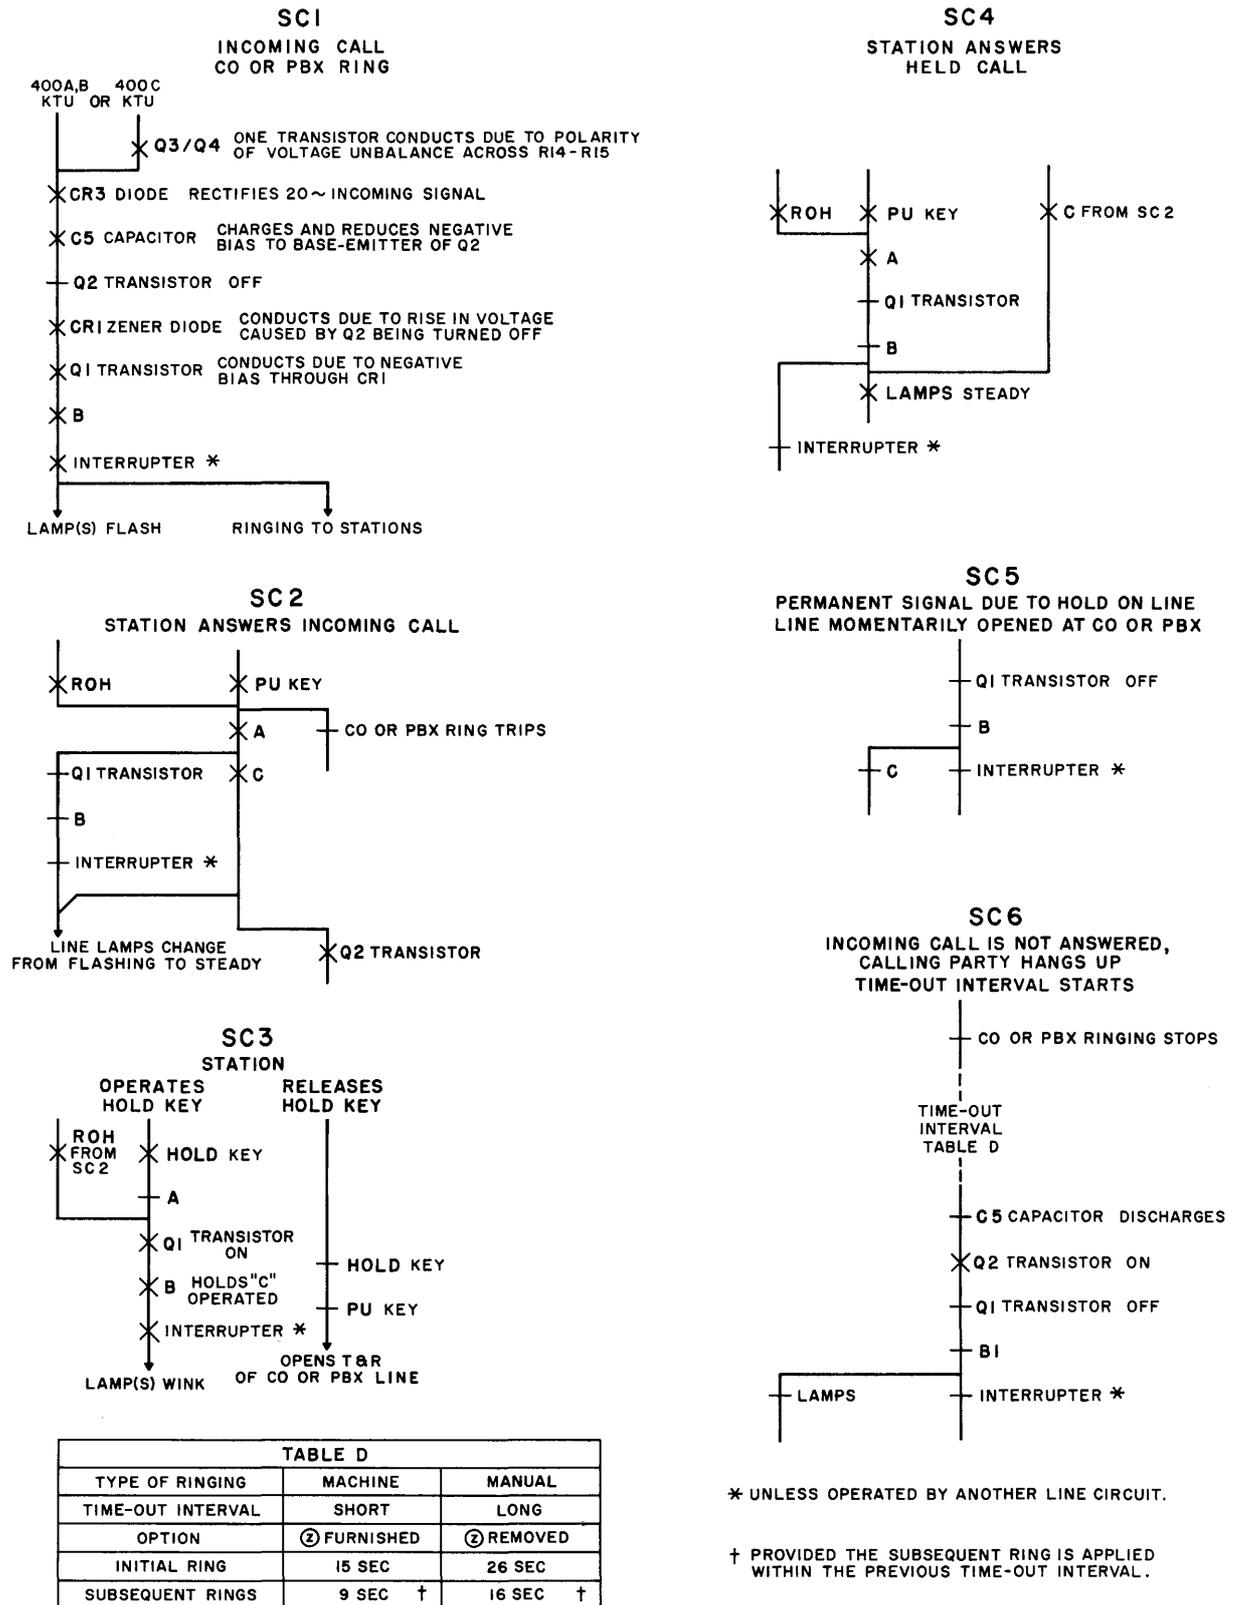

Fig. 7 — Sequence Charts (SC1 to SC6) Showing Operational Sequence of 400A, B, and C KTUs
5.04 Operational sequence charts are shown in Fig. 7 and 8.